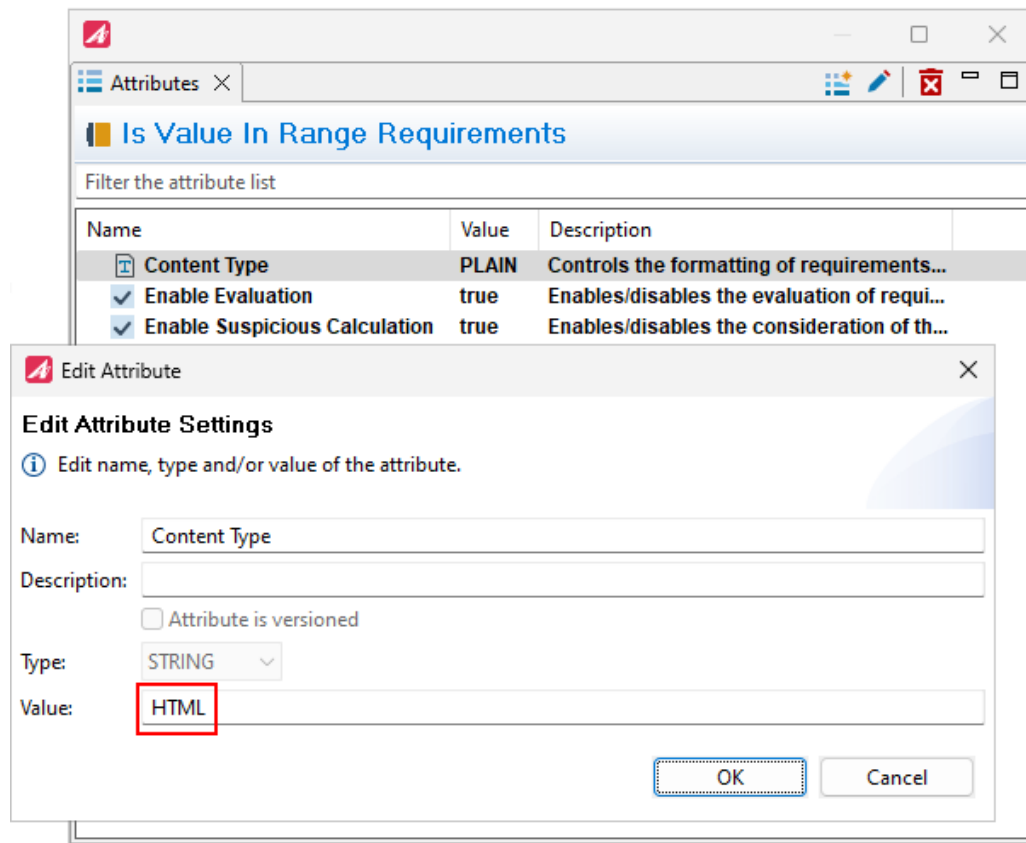

Figure 6.125: Changing the “Content Type” attribute to HTML
- Change the value to “HTML” and click “OK” (see figure 6.125).